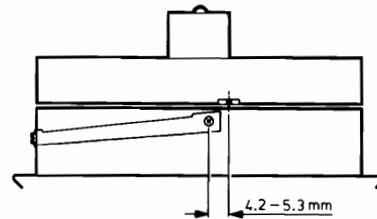

Fig. III-4
- Adjust R9 of U219 in a way that, measured in rotation direction of the head disc, the distance between the mounting screw and the gap of the video heads is 4,2-5,3 mm (see Fig. III-4).